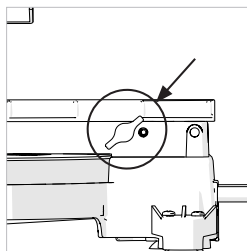

Fig. 14
- Loosen the thumbscrew. (Fig 14)